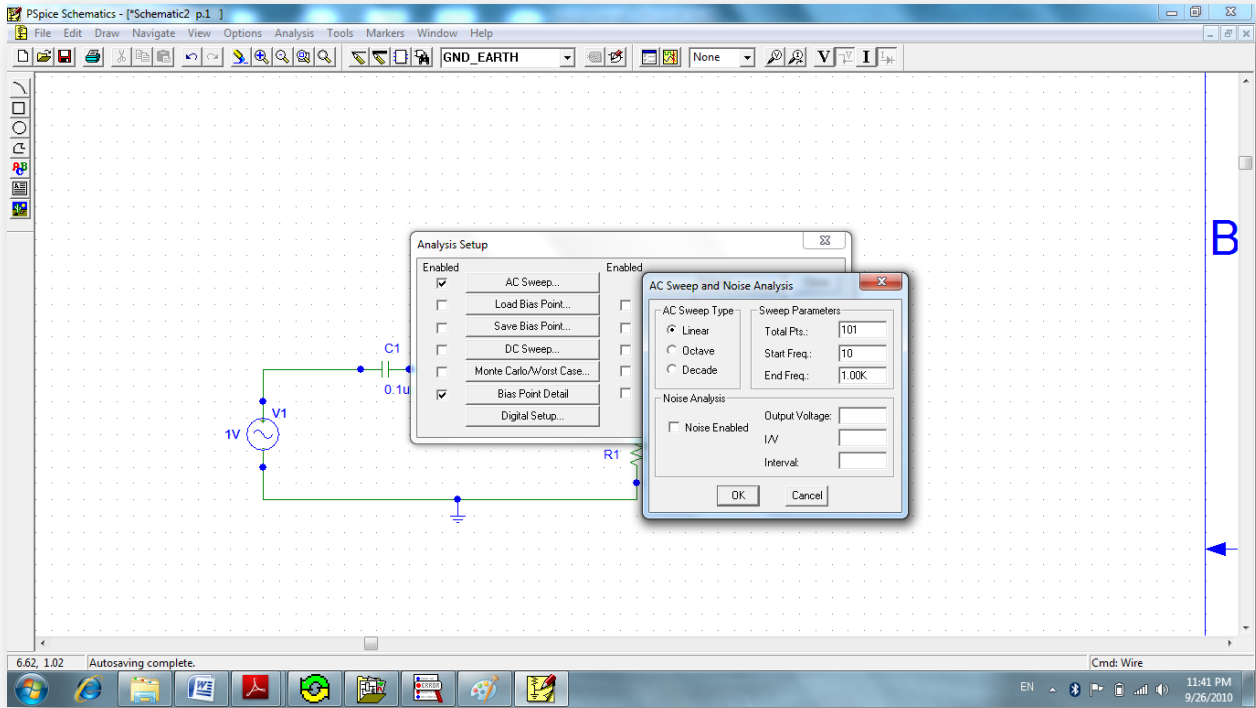

Fig.4.2.2: AC Sweep Analysis.
- 3- Set the AC Sweep parameters as shown in Fig.4.2.2.